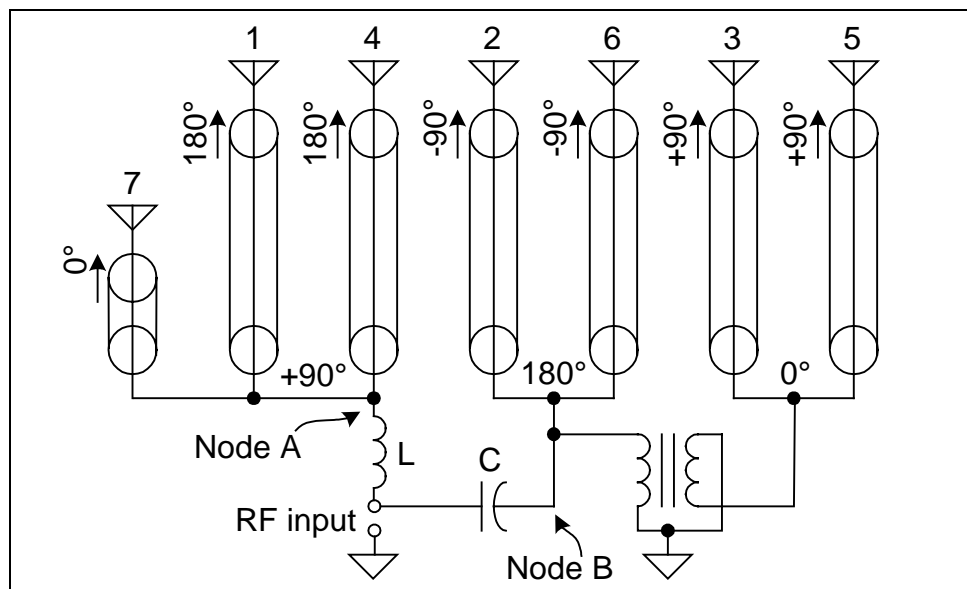

Figure 3. Configuration #1.
For configuration #1, firing in the direction of element 1, the lines are wired as in figure 3. The entire phasing network consists of one inductor, one capacitor, and one autotransformer. Nodes A and B are driven through an LC splitter, with values chosen so that voltages A and B have equal magnitudes, and the phase of B leads A by 90° . It can be shown that, for any set of load impedances, there is always a set of values for L and C that meet this condition. The lines to elements 1, 4, and 7 are driven in parallel. Similar to the reasoning for configuration #3, the outer elements (1 and 4) will be 180° degrees out of phase with the center element (7). Elements 2 and 6 are wired in parallel and elements 3 and 5 and also wired in parallel. The two pairs of elements are driven out of phase by an autotransformer. This results in the correct antenna current as shown. The transformer should be tightly coupled with low leakage inductance. The design constraints are similar to those of the autotransformer in a hybrid combiner. I constructed it, as those often are, by winding coax around a big toroid, and using the shield for one “winding”, and the center conductor for the other “winding.” I used special low impedance coax to get tighter coupling, but I probably could have gotten away with 50 ohm coax. This type of transformer physically looks just like a choke balun in its construction, but notice that the connections at the ends are different. The “phase” of the RF input is irrelevant since only the relative phase of the element currents matters.